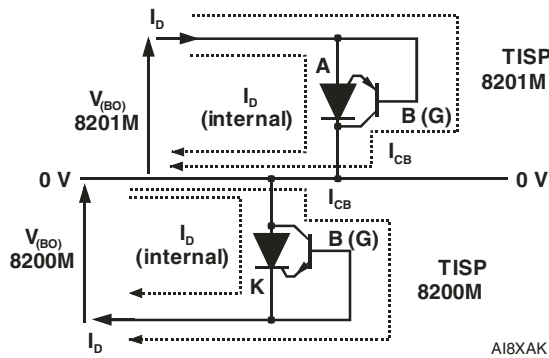

Figure 8. Off-State Current Verification
*Testing transistor CB and SCR AK off state:* The highest AK voltage occurs during the overshoot period of the protector. To make sure that the SCR blocking junction does not break down during this period, a d.c. test for off-state current can be applied at the overshoot voltage value. To avoid transistor CB current amplification by the transistor gain, the transistor base-emitter is shorted during this test (see Figure 8).